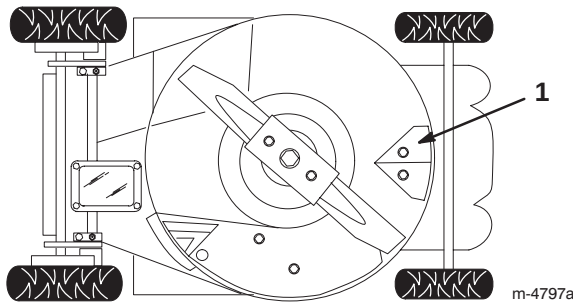

Figure 18
Keep the underside of the lawn mower housing clean. Be especially careful to keep the kickers free of debris (Fig. 18).
4. Tip the lawn mower onto its *left* side (Fig. 18).